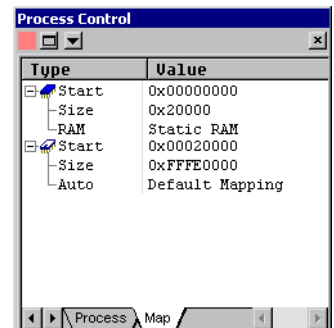

Figure 13-22 New memory map in the Process Control pane
14. Select **View** → **Memory Map** tab to view the new memory map, shown in Figure 13-22, before loading an image.